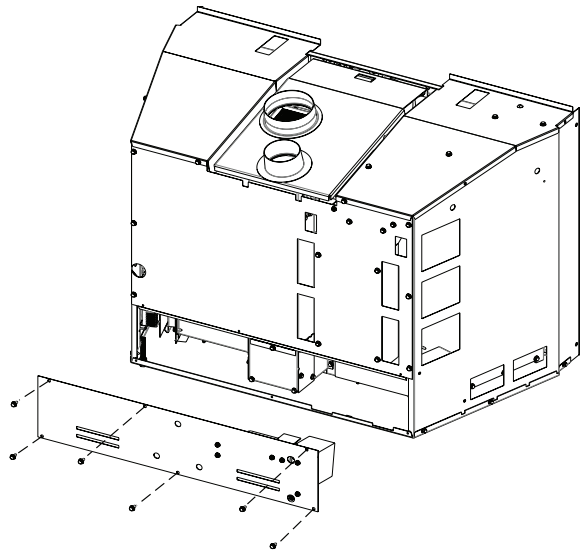

Figure 15
18. Re-attach blower wire harness to blower. Attach new blower assembly to unit using 6 screws, be careful not to pinch wires between metal. **See Figure 15.**